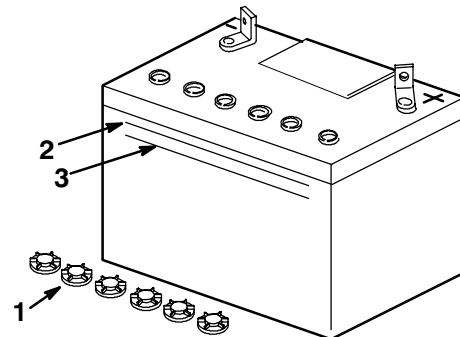

Figure 53
The electrolyte must be up to the Upper line (Fig. 53). Do not allow the electrolyte to fall below the Lower line (Fig. 53).
3. Remove the vent caps from the battery (Fig. 53).
4. Slowly pour distilled water into each battery cell until the electrolyte level is up to the Upper line (Fig. 53) on the battery case.
5. Wait five to ten minutes after filling the battery cells. Add distilled water, if necessary, until the electrolyte level is up to the Upper line (Fig. 53) on the battery case.